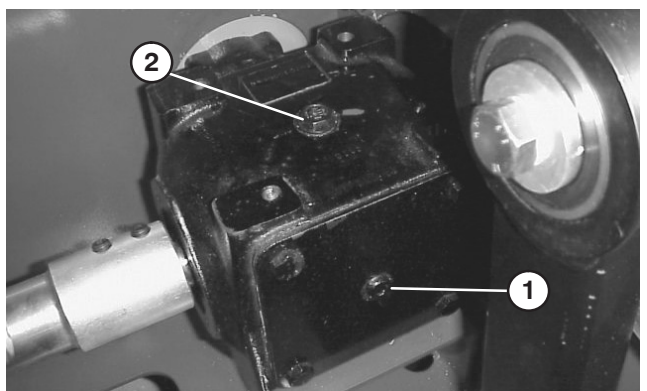

Figure 28
1. Remove check plug at rear of gearbox (Fig. 28).
2. Make sure oil is up to bottom of check plug hole in gearbox (Fig. 28).